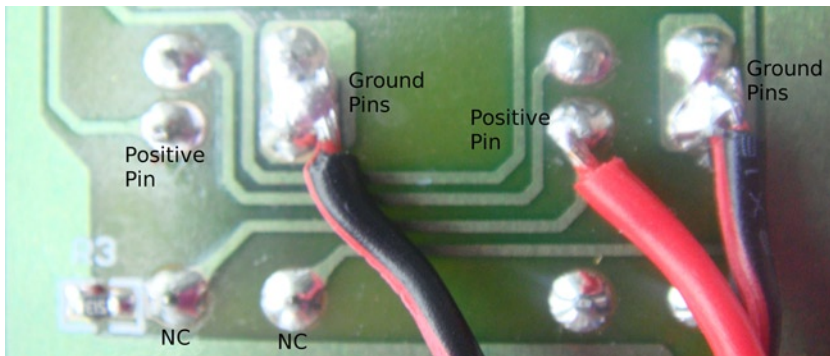

Figure 10-9. *The wiring of the remote control*
1. Take a look at Figure 10-9 to see how I have wired my remote. I have fully connected only one switch to better display the pins of the switch. You will need to connect one ground wire and one positive wire to each switch.